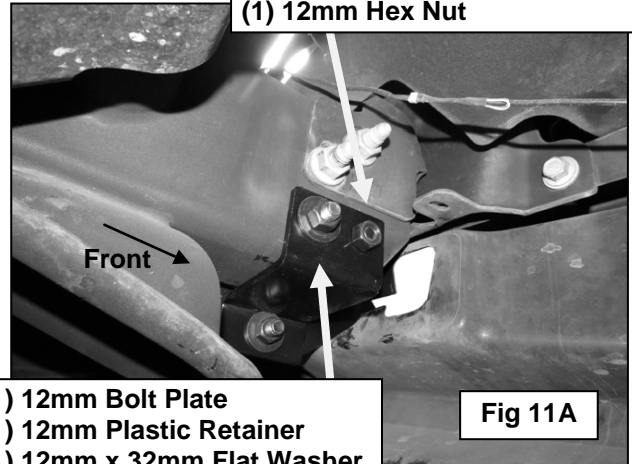

Fig 11A
- a. Install (1) 12mm Bolt Plate with Plastic Retainer in the end of the frame as described in Step 3.
NOTE: On the Driver/Left Side, the (2) holes will be on the inner wall of the frame, **(Figure 11A)**.